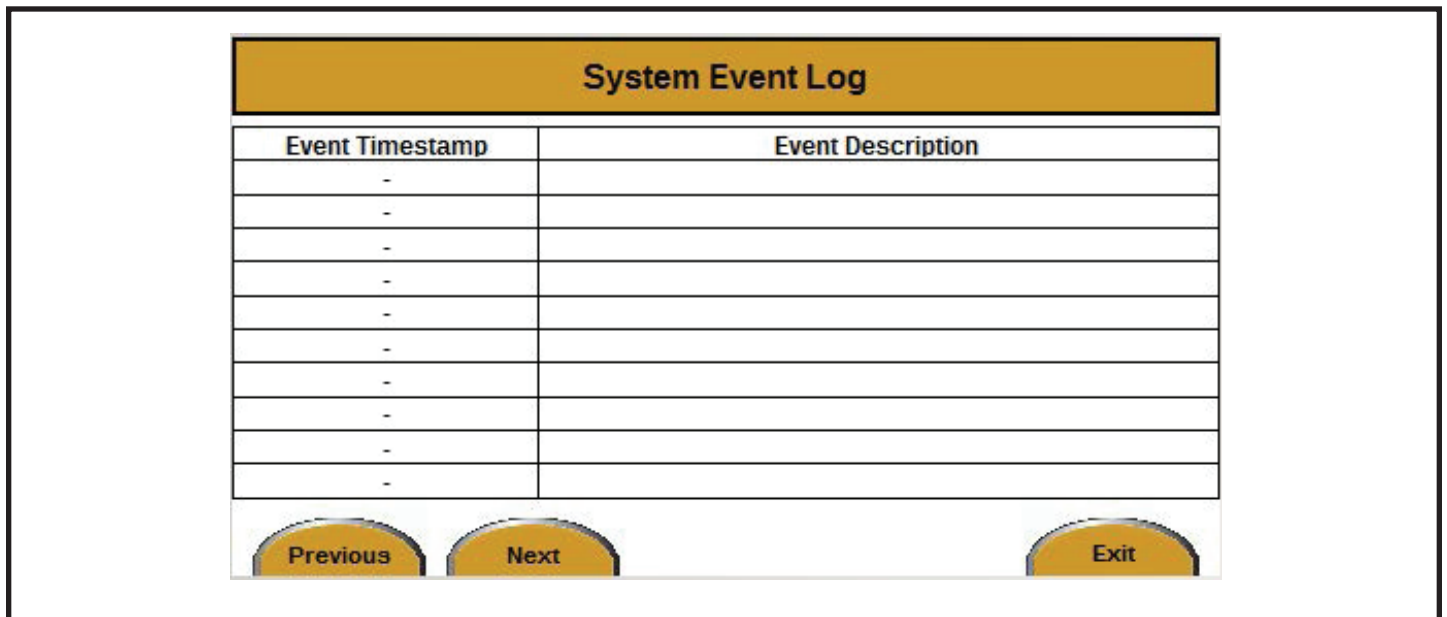

Figure 21
5. Press the ENTER button. The System Event Log screen will appear (see *Figure 21*).